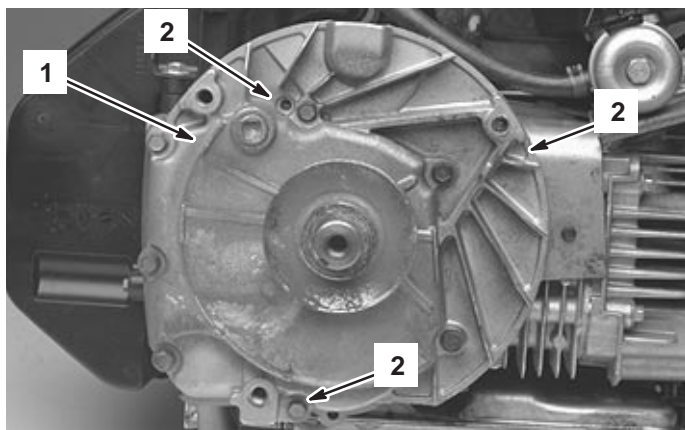

Fig. 130 – Removing Crankcase Cover
3. If crankcase cover or sump sticks, tap lightly with soft hammer on alternate sides near dowel pins, Fig. 130.